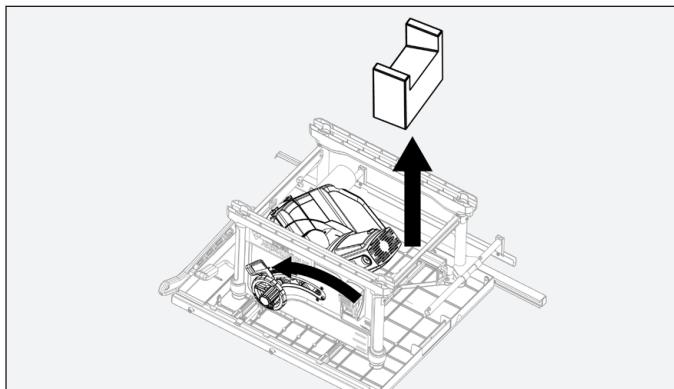

FIGURE 6
**NOTE:** Before assembling stand to saw, unlock bevel lock, tilt blade/motor assembly and remove Styrofoam piece from under saw motor. The bevel lock is the handle located underneath the blade height adjustment wheel (FIGURE 6).